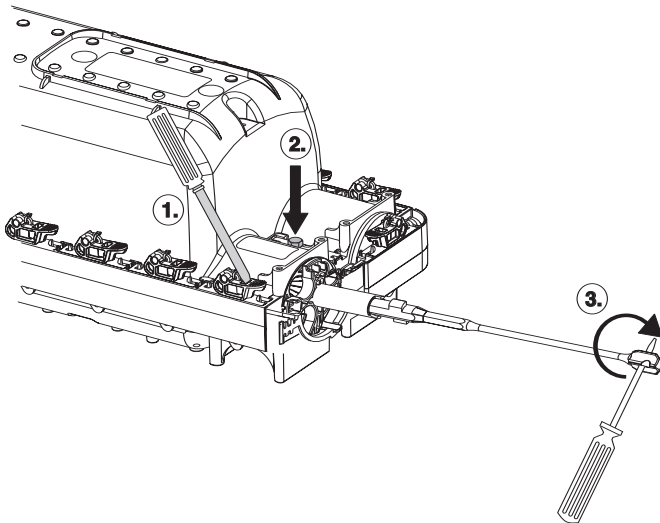

Fig. 26
3. Use a 1/2" socket to tighten the captured bolt at each end of the closure (two bolts, total). (Figure 26, Step 2)
4. Fasten all latches around the outside of the closure by inserting a flat-blade screwdriver into each latch. Go back to bolts to make sure they are tight. (Figure 26, Step 1)
5. Twist the "tail" of each gel block clockwise to seal cables. When the tail reaches its physical stop, the seal is complete. Insert a screwdriver through the loop in the tail, or use a Crescent wrench to apply extra torque, if required. (Figure 26, Step 3)